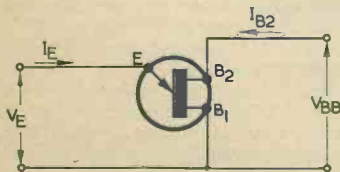
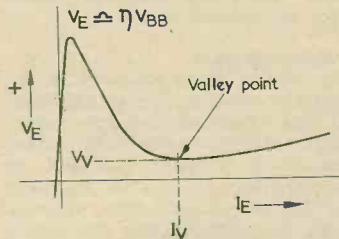

Fig. 1. The circuit symbol for the unijunction transistor. Also shown are the emitter and base voltages and currents
Fig. 2. The emitter voltage/current characteristic
The usual symbol for the unijunction transistor is shown in Fig. 1, the three connections being: "base 1", "base 2", and "emitter". Although the device may not be immediately ruined by reversing the polarity of the two bases, it should be connected with base 2 positive of base 1. (It should be noted that the term "base" has no connection with the "base" of the normal type of transistor). When base 2 is made positive of base 1, and if the emitter voltage is plotted against emitter current, the resulting curve is that shown in Fig. 2. At first, when V_E is small, only a leakage current of a few micro-amps flows, but when V_E exceeds a certain fraction of V_{BB} , a much heavier current begins to flow in the emitter circuit. As the current rises further the emitter voltage drops, and thus this is a negative
* In General Electric literature on unijunction transistors, η is defined by the equation $V_P = \eta V_{BB} + \frac{200}{T_1}$ where V_P = peak point emitter voltage (at the peak of the curve of Fig. 2), V_{BB} = interbase voltage and T_1 = junction temperature in degrees Kelvin.